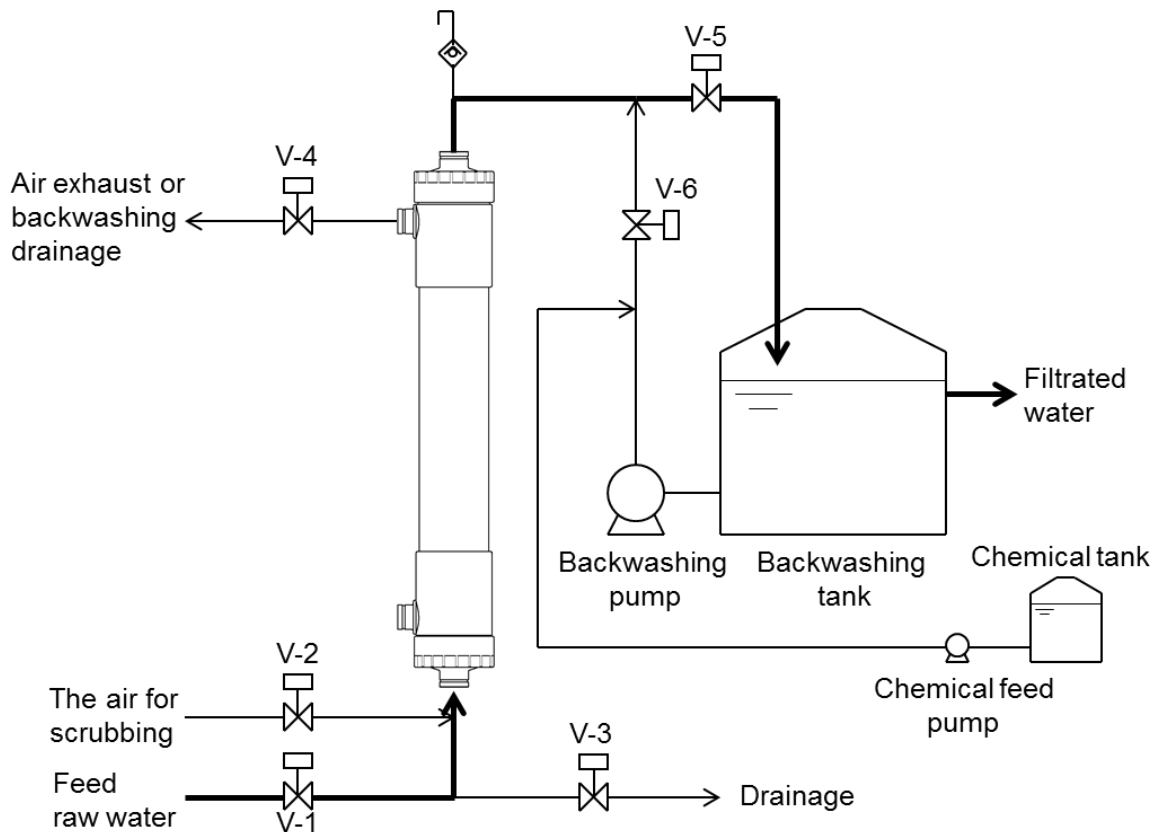

Fig. 3 Typical example of piping
5. Connect the piping to each connection point of the module with Housing type joints (HFUG-2020AN) (see Fig. 3). The maximum fastening power of the Housing type joints should not exceed 40 Nm. When you tighten or loosen the Housing type joints, make certain to maintain sufficient space prior to the work and be careful not to be wounded by swinging out or clipping your fingers.
- (1) Check that all piping is connected appropriately and flushed out prior to the operation. Fig. 3 shows a typical example of piping.